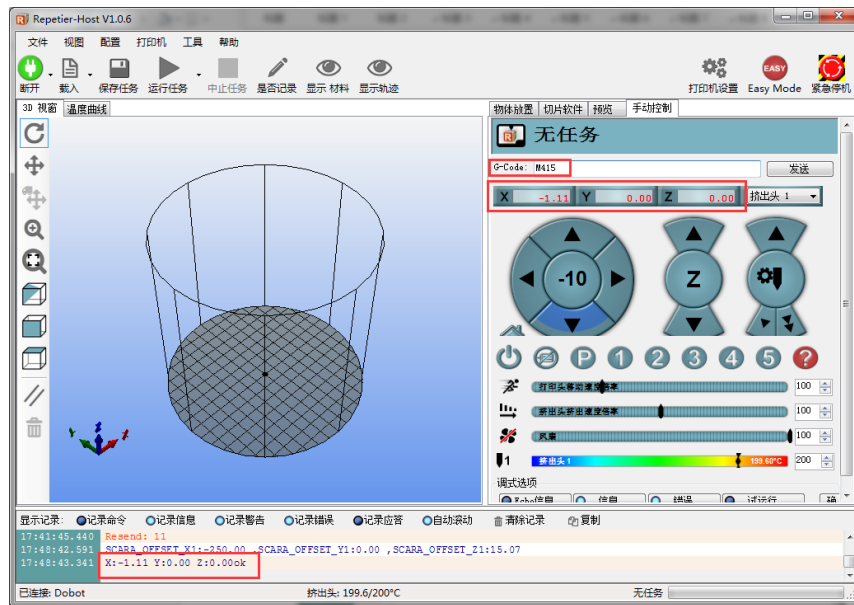

Figure 5.134 Input M415
2. Input command **M415** on the **G-Code** command window and press **Enter** to get the current coordinates, as shown in Figure 5.134.